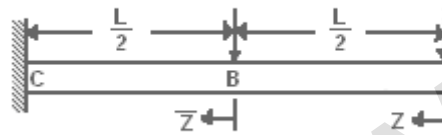

Figure 9:
1. For the three noded cantilever beam as shown in figure 9, determine global stiffness matrix and lumped mass matrix. [16]